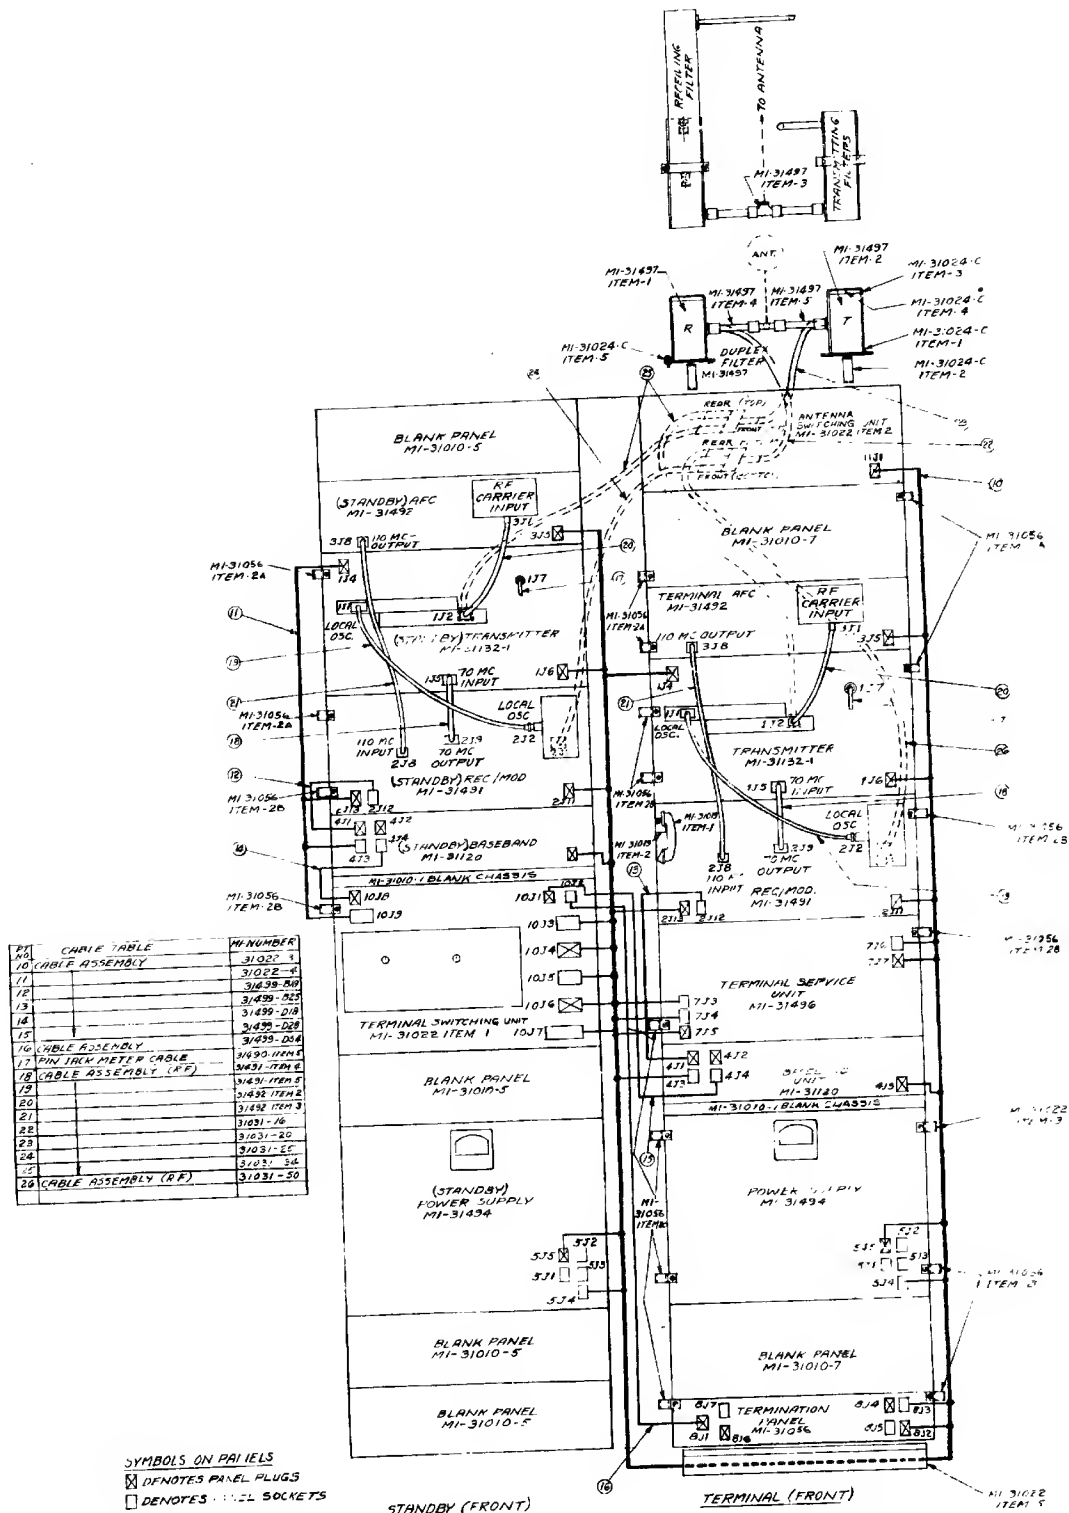

Figure 22—CW-20A (MM-20A) Terminal Standby Station—Cabling Diagram
mon equipment with the exception of the terminal switching unit, while the left-hand rack will contain the terminal switching unit and the standby equipment. The two racks are connected together by the large standby cable, MI-31022-A, -B item 3. The equipment layout and all cable connections are shown in figure 22.
cables except the MI-31499-B25 cable connected from 4J1 of the baseband unit to 2J12 of the receiver/modulator. This cable will remain, connected as it is, in the standby installation. Remove all MI-31031 rf cables from the terminal equipment. Mount the terminal antenna switching unit as shown in figure 22. When the standby rack is installed, with all units in place, the cables
to the two racks should be connected in accordance with the cabling in figure 22. In connecting these cables, caution should be exercised to insure correct connections, or damage to equipment may result when power is applied. The plugs of cable MI-31022-A, -B item 3 are stencilled with the schematic symbol numbers of the panel plugs which receive them.
(figure 32A for MI-31022-C) (figure 33), cable connection diagram of figure 22 (figure 27), visual observation of relay action, voltage measurement with the power on and continuity measurements with the power off, the trouble can be diagnosed.